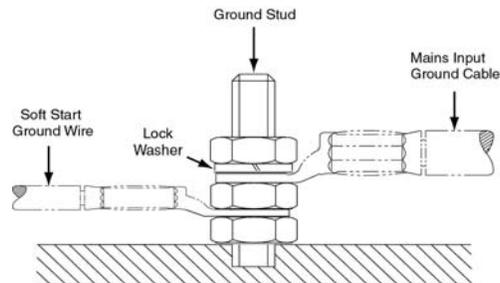

Figure 22 Ground Connection Details
6. Attach and secure the ground nut to the ground post (see Figure 22).